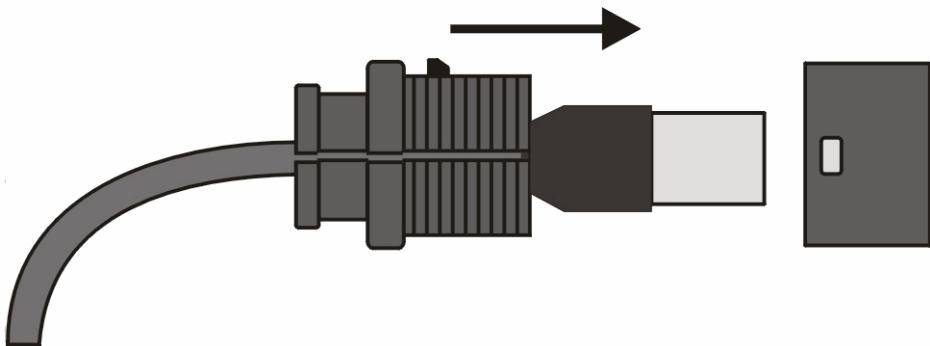

Figure 2-9: Connecting the SU-ODU connector and inserting the Sealing Cap
- 2 Expose the RJ-45 connector under the sealing cap on the Ethernet cable and connect to the SU-ODU RJ-45 connector (Figure 2-9).